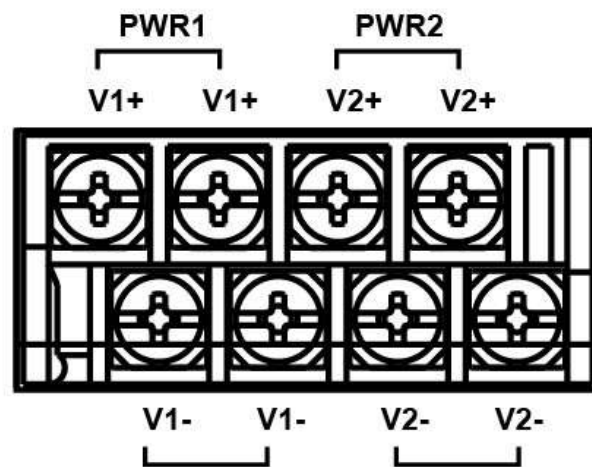

Figure 2.9: Power Input Connector
Step 1. Insert the positive and negative wires into the PWR1 (V1+, V1-) and PWR2 (V2+, V2-) contacts on the connector as shown below in Figure 2.9.